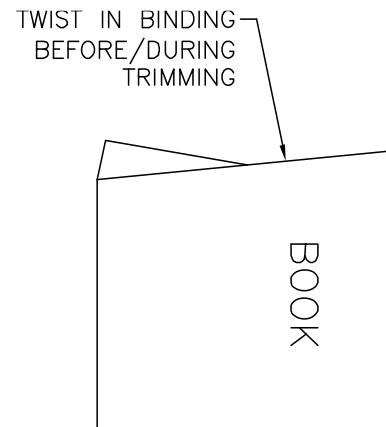
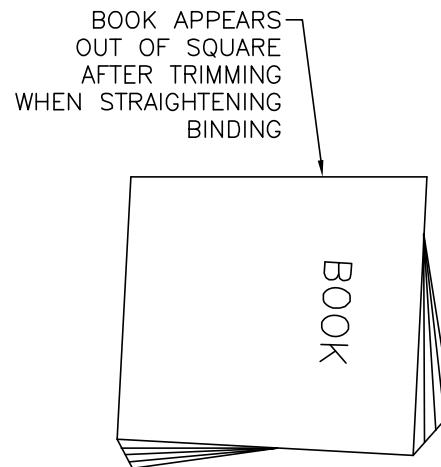

Figure 5-9. Twisted Binding
Figure 5-10. Straightened Binding
- Books are allowed to cool with a twisted binding as shown in Figure 5-9. When a book is straightened after trimming, it looks similar to the book shown in Figure 5-10. This is the most common cause of out of square.